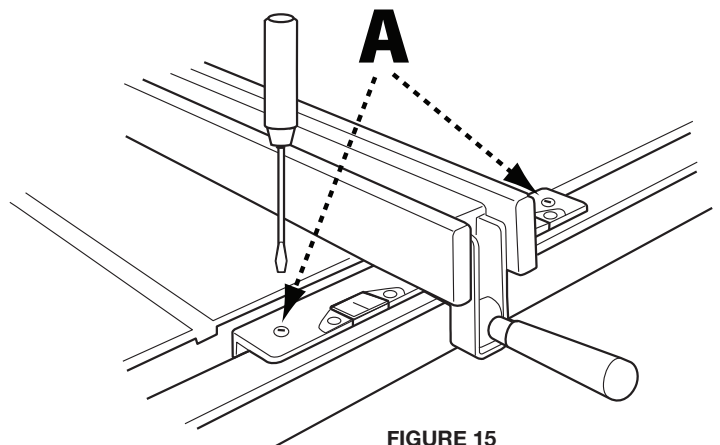

FIGURE 15
1. To adjust, locate the two nylon set screws (A) (Figure 15), on top of the fence.